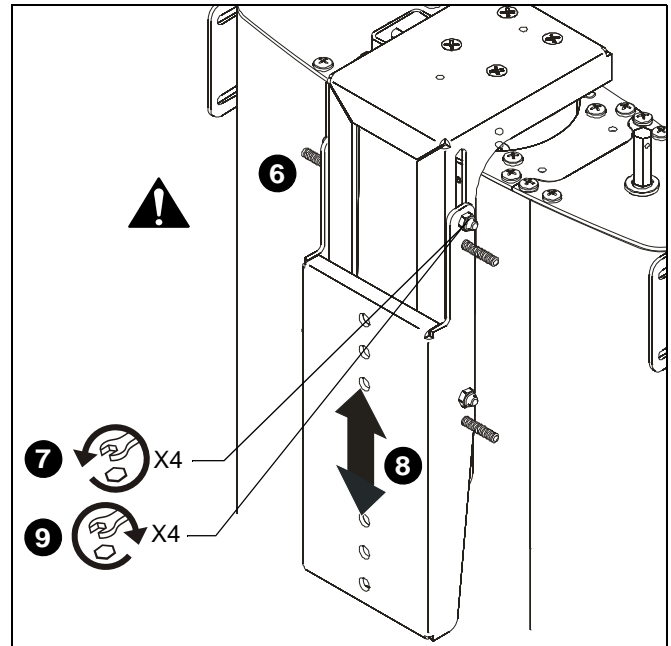

Figure 6
4. Secure faceplate to faceplate mounting bracket using two locknuts. (See figure 6)
7. Loosen four nuts securing faceplate mounting bracket to frame. (See figure 6)
8. Position faceplate mounting bracket in desired location in upper or lower slots. The display can be lowered an additional 2" by moving the faceplate to the lower slots. (See figure 6)